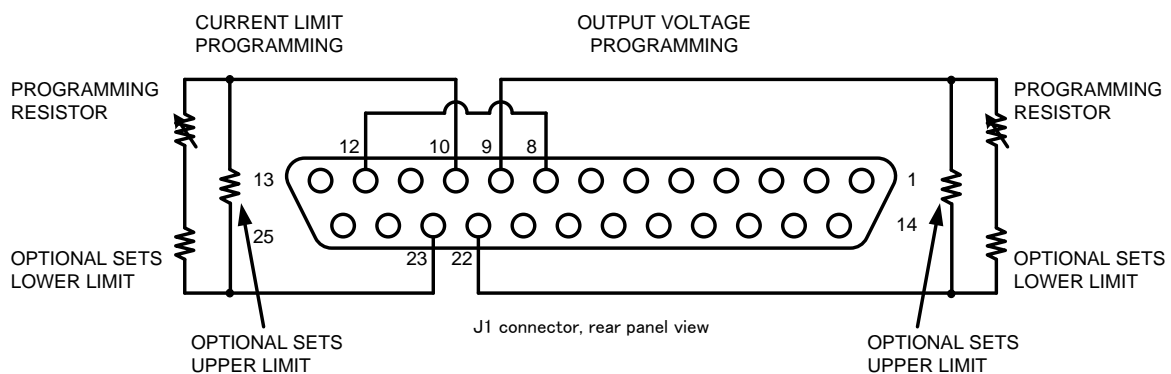

Fig.5-2: Remote resistive programming
- ◆ Refer to Fig 5-2 and "3-4-1. Making J1 connections".
6. Connect the programming resistors to the mating plug of J1-22 (VPGM_RTN), J1-23 (IPGM_RTN) as shown in Fig.5-2.